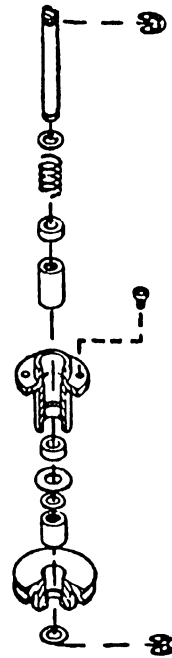

FIGURE 5-12 RIBBON DRIVE
- 2) Check that the ribbon advance cable is properly seated on ribbon drive pulley (Figure 5-12 and 5-13).
- 3) Remove snap ring from bottom of ribbon drive pulley, remove 2 screws from top of ribbon drive assembly and pull through carriage assembly (Figure 5-12).